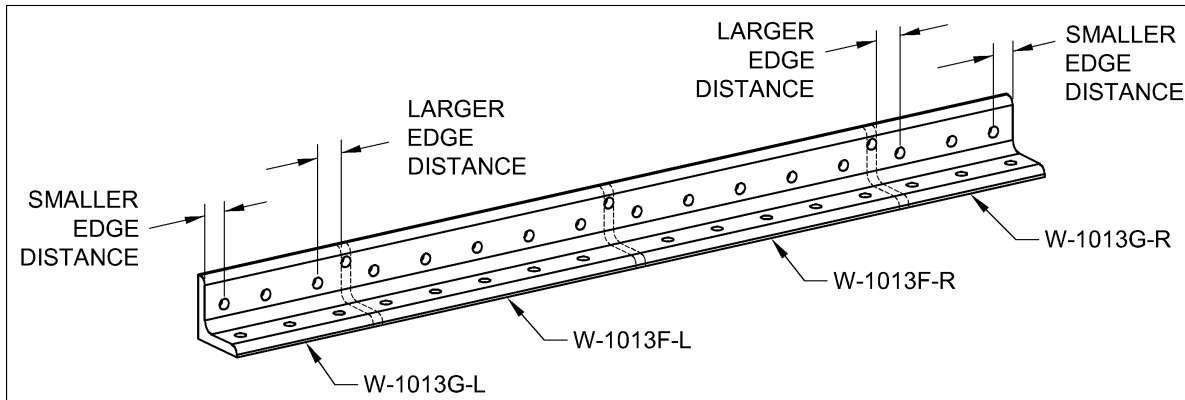

FIGURE 12: SEPARATING THE W-1013FG AILERON ANGLE BRACKET
Step 20 (RV-10 & 14 only): First label (see note below), then separate the W-1013FG Aileron Angle Bracket into individual parts as shown in Figure 12. Separate the part at the three holes that are offset to the edge of one of the flanges. Cut perpendicular to the part, and trim away material the width of the hole across the entire part (file/sand if necessary).